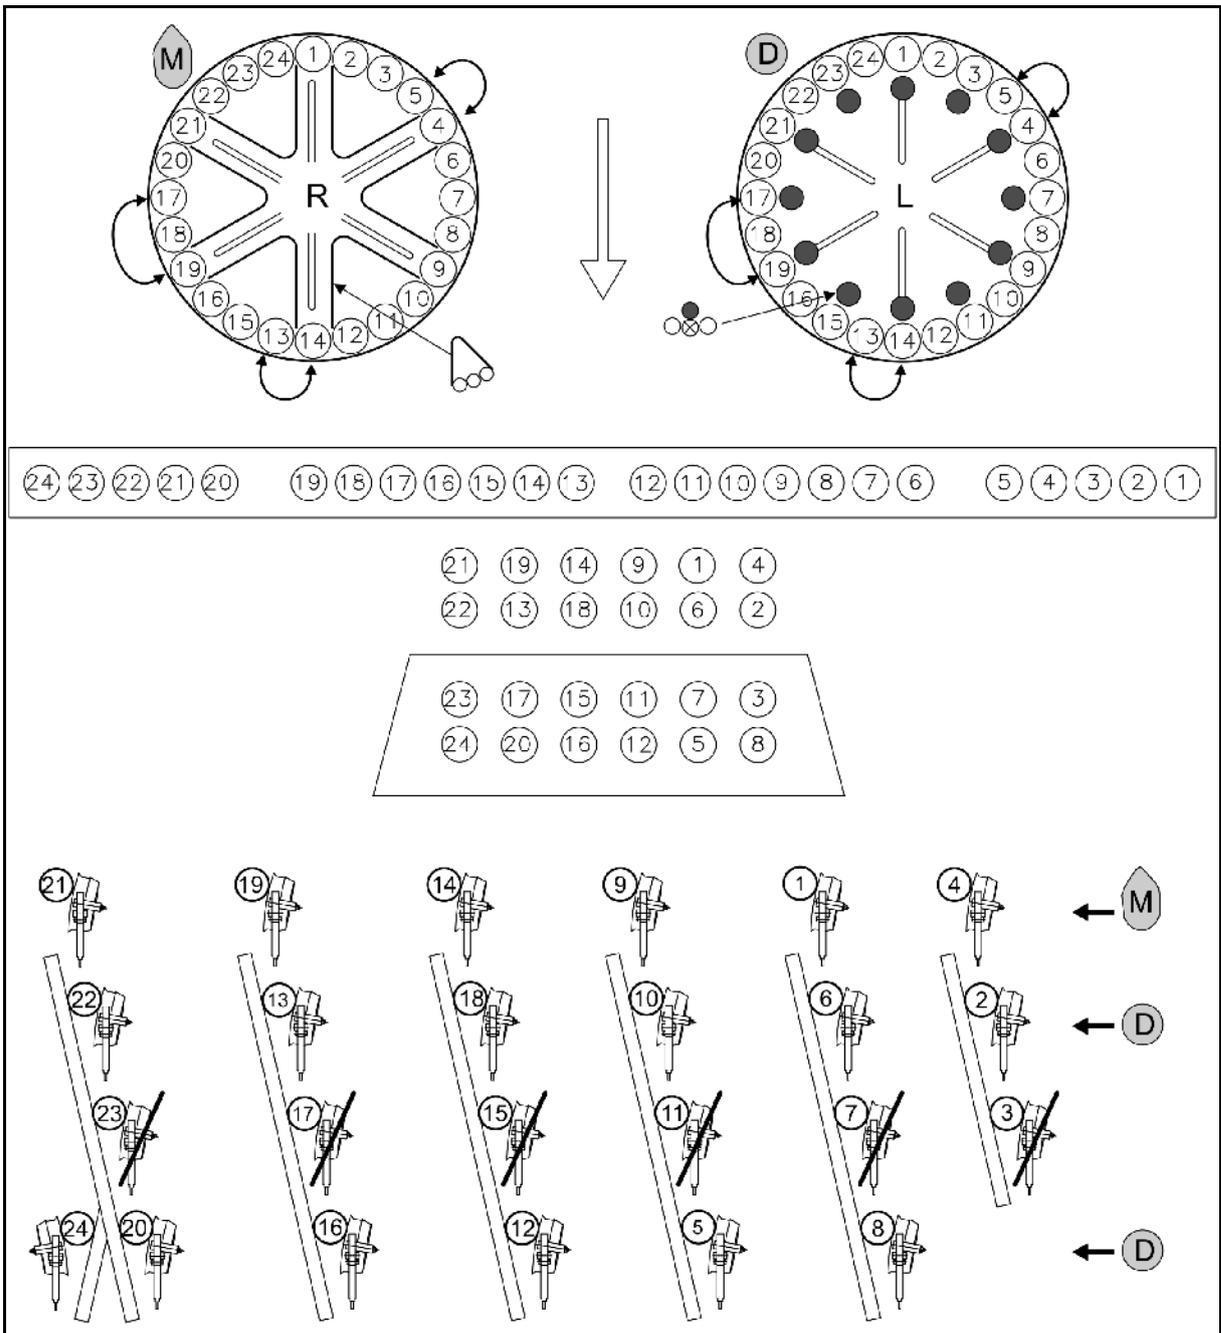

Fig. 43
- Maize ^M: Install the locking plates according to Fig. 43.
- Fertiliser ^D: Install the sealing plugs according to Fig. 43.